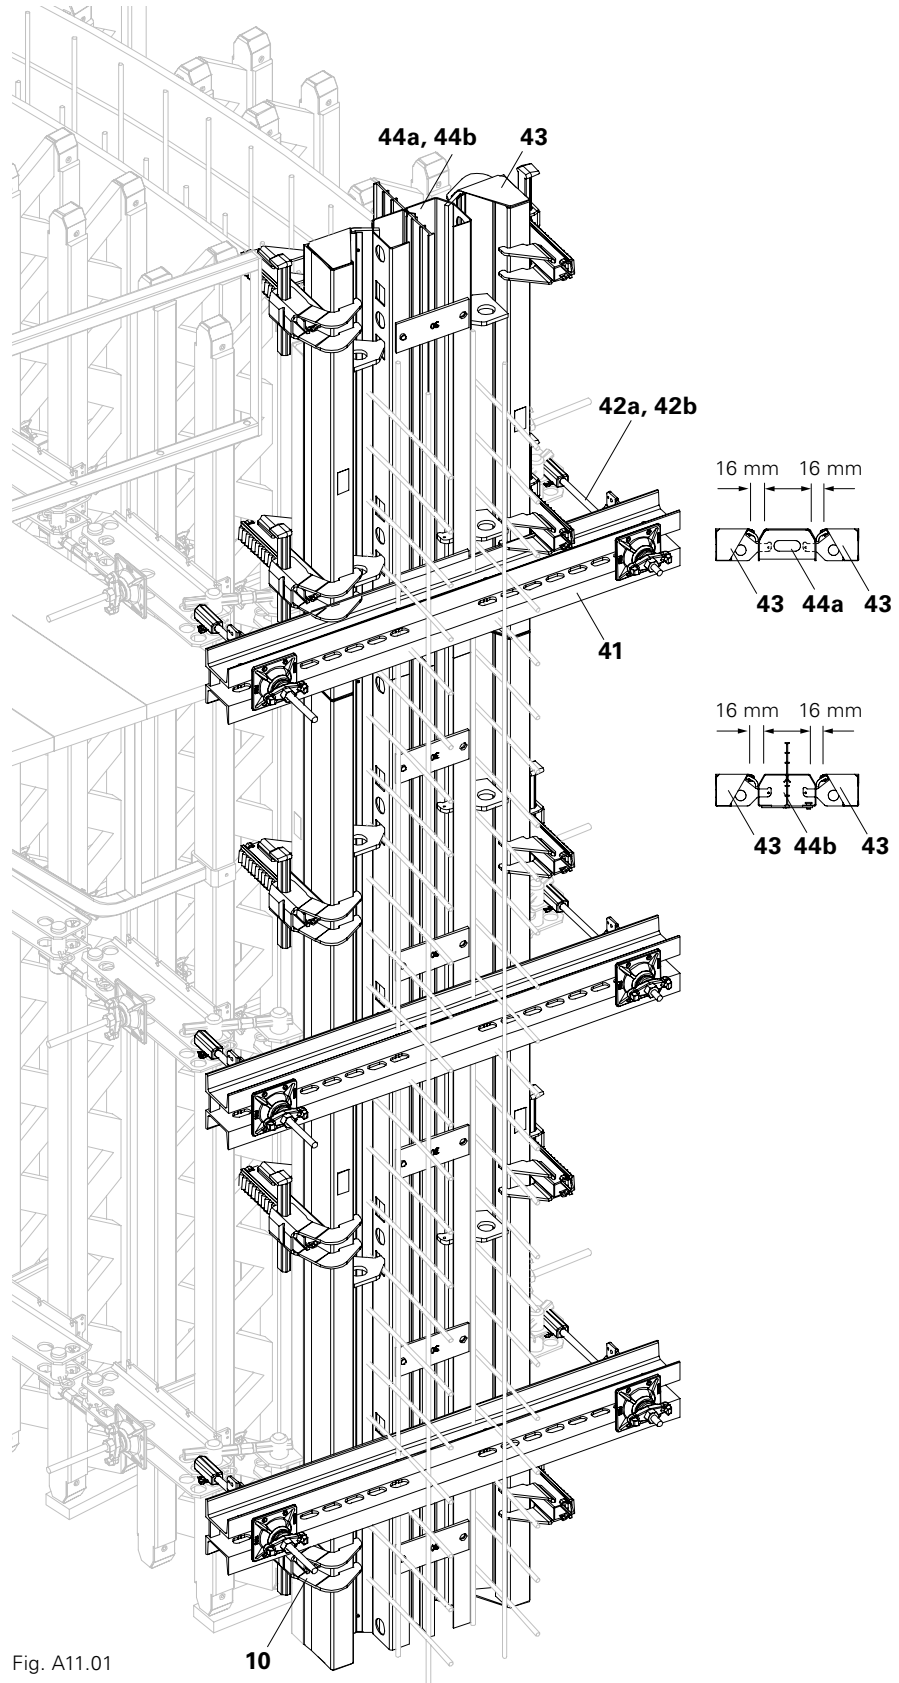

Fig. A11.01
1. Position placing formwork, and then fix Outer Part AT (43) to the placing formwork with the Alignment Coupler BFD (10).
5. Mount Steel Waler (41) and Hook Ties (42a + 42b). (Fig. A11.01)
The rubber lip allows a maximum reinforcement diameter of approx. 16 mm. (Fig. A11.01)